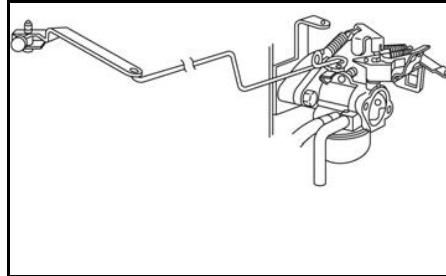

Figure 3
- Figure 3 - Vertical Shaft Model 99700